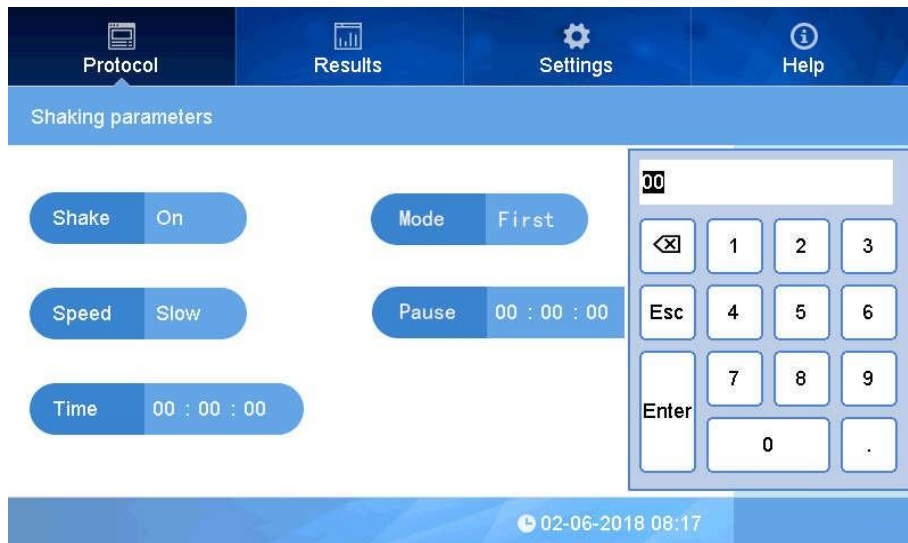

Fig.25
- Click button right beside “Time” to set time, input numbers to set hour/minute/second (Fig 25).